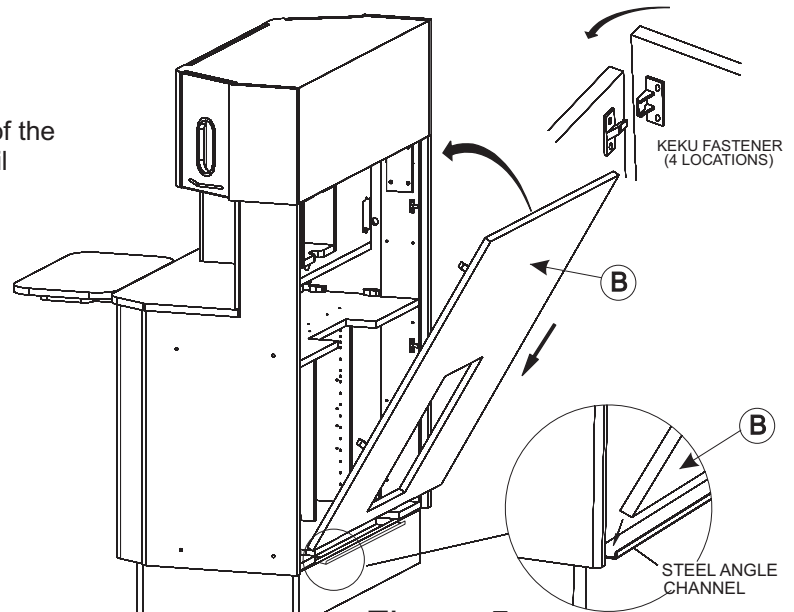

Figure 5
Replace the Back Panel (B) by seating the bottom edge into the steel angle channel at the bottom of the rear opening (see Figure 5). Tilt the top edge inward until all (4) Keku Latches are fastened. You may need to use a rubber mallet to tap the panel into position.